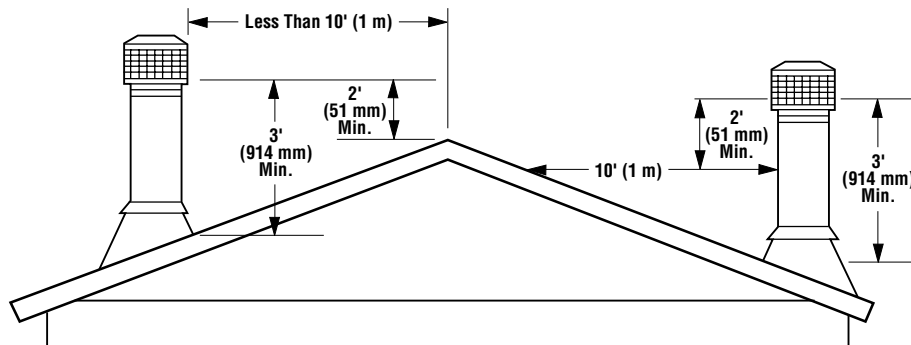

Figure 9
8. Figure 9 illustrates the correct height of your chimney top. It is unlikely that your installation does not adhere to the installation instructions. However, if not correct, you could experience an unusual downdraft. Usually, the best solution is to increase the chimney height. This may also be necessary if nearby trees, adjoining roof lines or a hill is causing a downdraft condition.